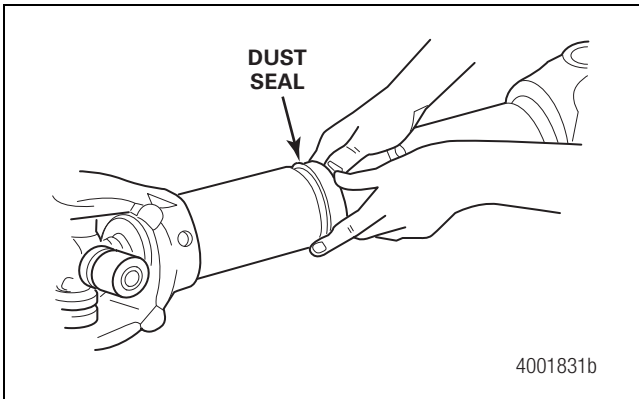

Figure 8.22
7. Snap the seal into the groove. Figure 8.22.